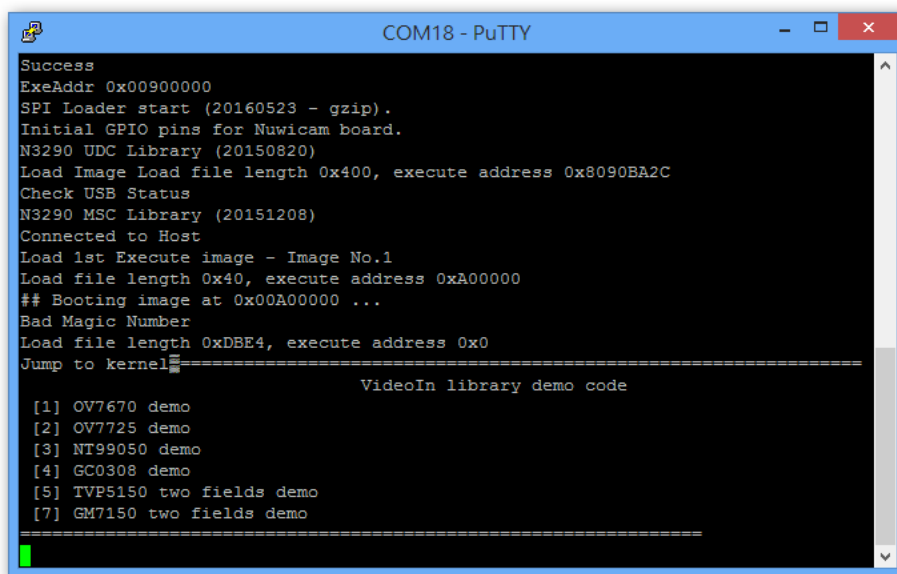

Figure 7-2 NuWicam UVC menu
- (5) To press 'SW1' reset button on NuWicam main board. After pressing SW1, you will see NuWicam menu in Putty window as Figure 7-2.
- (6) To select UVC menu option. For example, if the NuWicam board is NuWicam VGA, you can select '4'. You doesn't install any driver manually. Window will help to install UVC camera automatically. After UVC driver installation is done, you can see a W55FA93 USB UVC Device in device manager window.